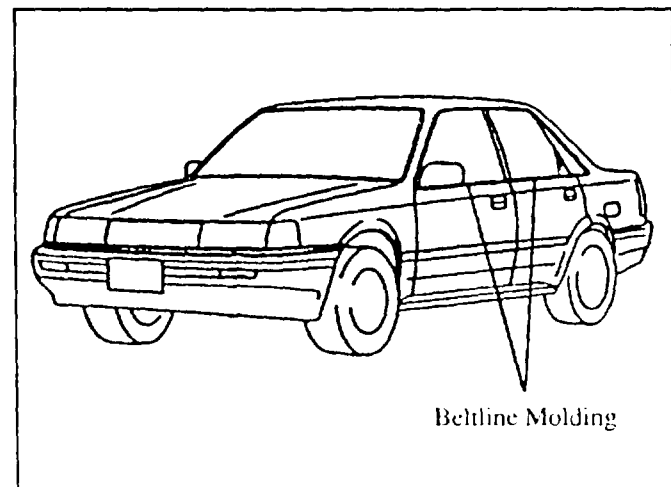

Figure 16: Area of Beltline Molding
1. While an assistant directs water along the beltline molding, inspect for water entering from over the plastic sill plate. **Figure 16.**